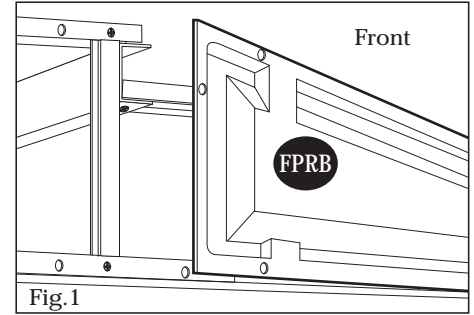

Fig.1
2. First put the roof plug washer on the roof plug. Locate the holes in the facia panel through roof structure and fix with roof plugs w/washers. Use a hammer (rubber mallet) to drive in roof pin. See figures 1, 2 and 3 for details. Place facia panel left (FPLB) to the front roof structure left side. Make sure (FPLB) overlaps on (FPRB). Repeat action to fix facia panels on backside. See Fig. 4, 5 & 6.
3. Start attaching the roof panels from (FPLB) corner side by sliding the roof panel (RP↑) to roof structure. Locate the hole positions of the roof panel and roof structure. Fix roof plugs with washers. Use a hammer to drive in roof pins. See figures 1 thru 6. Add two roof panels for each extension.